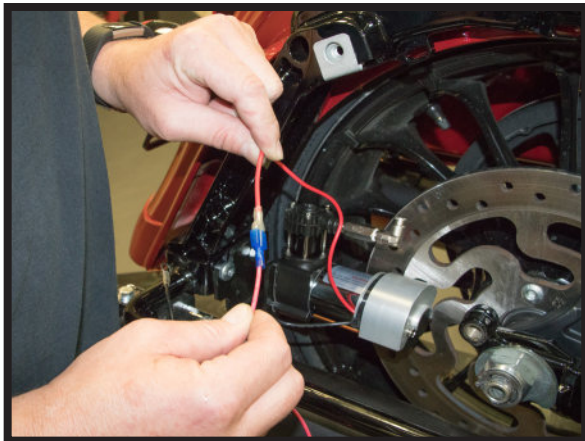

FIGURE 20
8. ATTACH THE INCLUDED WIRE EXTENSION TO THE COMPRESSOR AND WRAP THE WIRES WITH THE INCLUDED SPLIT LOOM. INSERT THE INCLUDED ¼" AIR HOSE INTO THE PUSH-TO-CONNECT FITTING ON THE COMPRESSOR. ROUTE THE WIRES AND AIR HOSE TOWARD THE RIGHT SIDE BATTERY COVER ATTACHING THEM TO THE FRAME WITH THE INCLUDED ZIP TIES. (FIGURE 20, 21, 22, 23)